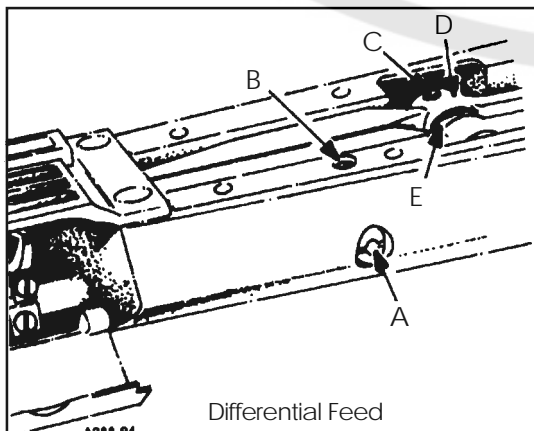
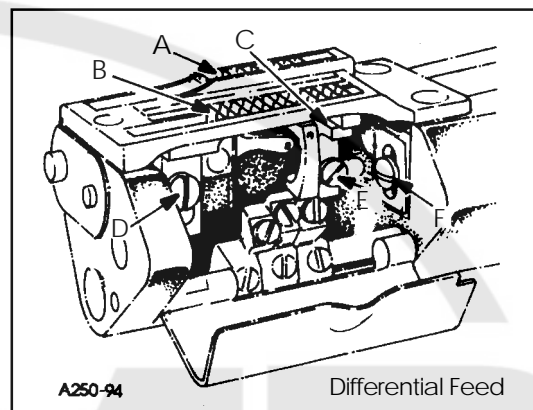

FIG. 10A
FIG. 11A
Before assembling the main and differential feed dogs, set the feed bar eccentric pin (A, Fig. 10A) located in the left side near center of cylinder, so that the slot in the head is in a horizontal position for the 35800BWDN, BLW style machines and turned counter clockwise to an approximate 45° for the 35800BWW style of machine. The pin can be used to slightly tilt both feed dogs if necessary. The feed bar pin is retained in position by set screw (B). Assemble differential feed dog (A, Fig. 11A), main feed dog (B) and throat plate. Both the main and differential feed dogs can be individually adjusted to height. Main feed dog (B) at its highest position, should be set to project above the throat plate, the depth of its teeth. If adjustment is necessary loosen screw (D) and move feed dog (B) up or down to attain correct setting. Feed dog support (C) should support front of feed dog.
NOTE: If eccentric pin (A, Fig. 10A) is used to tilt the feed dogs, make sure that the looper does not interfere with the rear needle guard and that the needle guard does not pinch the needle loops on the back side of the needles.
If adjustment is necessary loosen screw (E, Fig. 11A) in feed dog support (C) and move as required. Retighten screw (E). The differential feed dog (A) may then be leveled with main feed dog (B). If adjustment is necessary loosen screw (F) and move feed dog up or down as required. Retighten screw (F).
NOTE: Should the main feed dog require repositioning due to contact with the throat plate in its forward or rearward travel, loosen set screw (C, Fig. 10A) in main feed bar driving link (D), rotate main feed bar eccentric driving stud (E) as required. Driving stud (E) has a thin hexagon head with cutouts on two of the flats allowing movement by tapping with a sharp pointed tool, when wrench 21388AZ is not available. Whenever the main feed bar eccentric driving stud position has been changed, recheck rear needle guard setting, adjustment may be required. Retighten set screw (C). Position main feed dog support (C, Fig. 11A) flush against bottom of main feed dog (B), tighten support screw (E) securely.